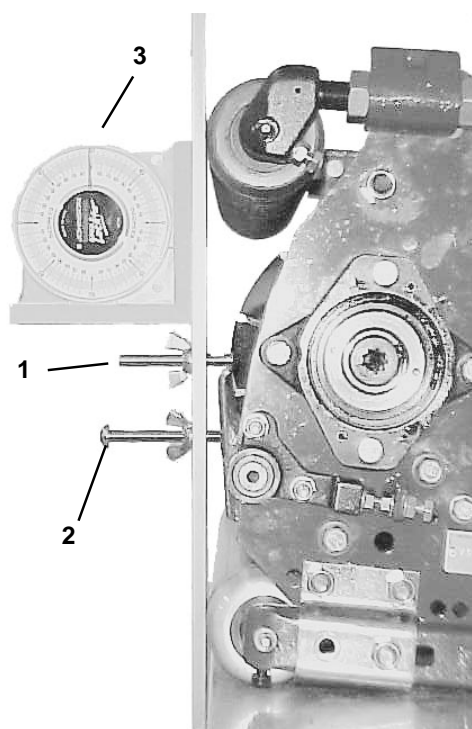

Figure 16
4. Place the gauge bar across the front and rear rollers. The first screw head needs to fit snugly over the edge of the bedknife, while the gauge bar contacts the front roller (Fig. 16).
5. Place an angle indicator on the gauge bar and record the gauge bar angle (Fig. 16).